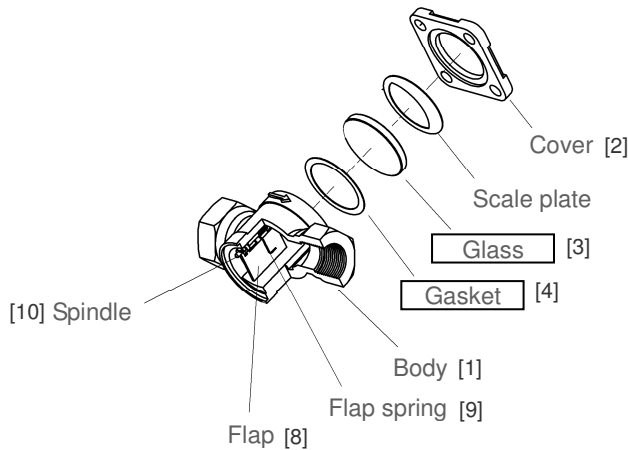

Figure 3
- Attach the gaskets [4], glasses [3], scale plates (A and B) [11] [12] and covers [2] in this order to the body. (See Figure 3.)